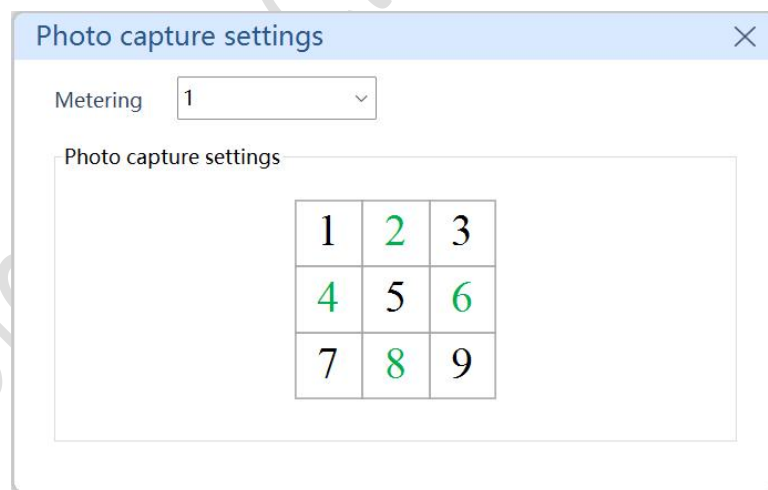

Fig.4-38 Photo capture settings for screen with diamond-layout LEDs
2) Once you have finished modifying the partition size, the number of intervals will automatically be calculated. You can find the number of photos that will be captured in each partition. See Figure 4-38.